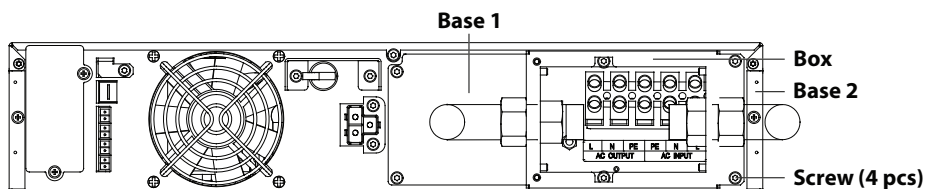

Figure 21: Installing the box
8. Set the box onto the Base 1 and Base 2 cable/hardware assemblies. Use the four box assembly screws to fasten the box to the bases (see Figure 21).
9. Using the hardware securing nuts, tighten the input and output cable assemblies to the box and bases (see Figure 21).